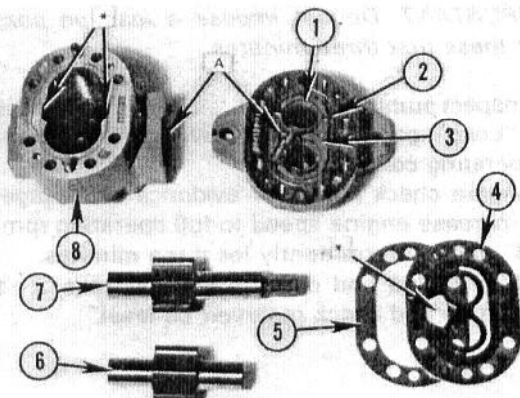

Fig. 28 — Installation of Seals Within Front Body — Rear and Center Bodies Assembled
3. Install new spacer, rubber seal and teflon ring into groove in front body. These parts are to be positioned as shown in Fig. 28.